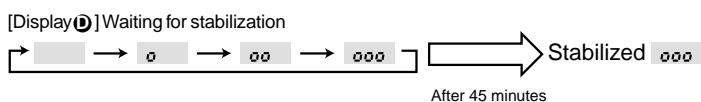

Fig. 8-3
- ③ Press **FILTER** button to confirm. (Fig. 8-3)